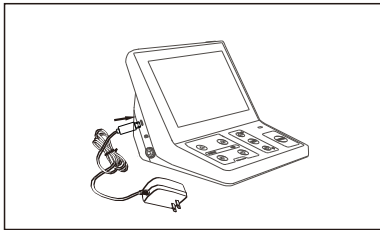

Fig.12
- Connect the charger's connector to the Control unit's charging socket ① (Fig. 12).